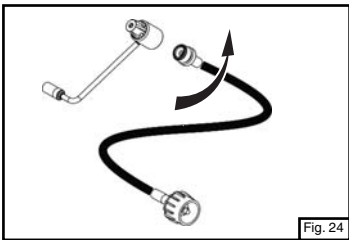

Fig. 24
2. Attach the fuel hose to the regulator (Fig. 24).